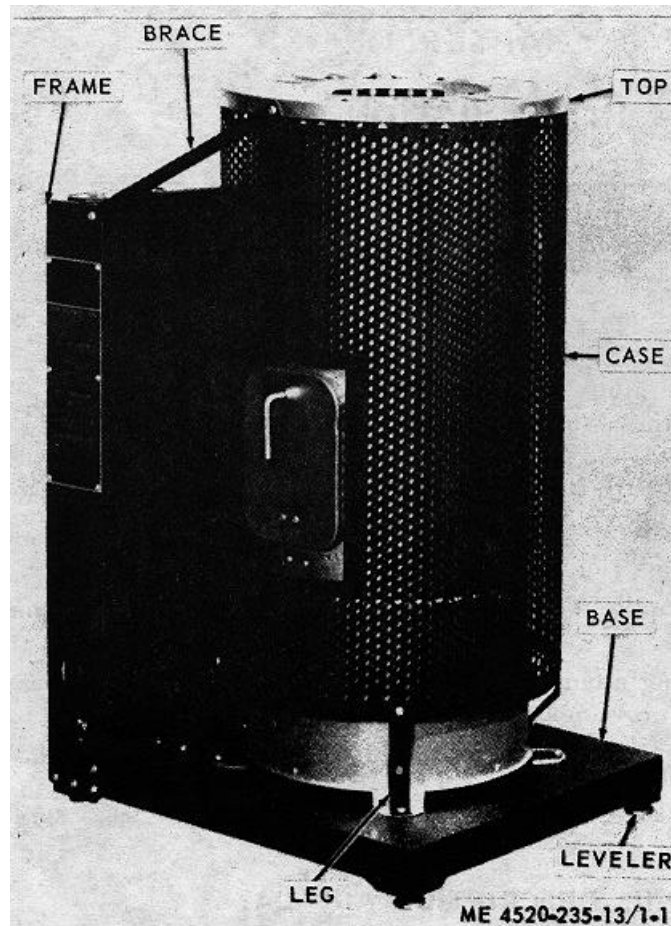

Figure 1-1. Space heater.
a. General. The Preway Models 444-3-ABJ, 444-2-ABEX, 444-4A, 444-4ABJ and Montag Model SH-70B Space Heaters (fig. 1-1 and 1-2) are fuel oil burning, non-electric, high radiant type heaters having an output capacity of 70,000 British Thermal Units (BTU) per hour. Preway Model 441-4ABJ has an output capacity of 50,000 BTU per hour. These space heater models are supplied complete with stove pipe, T-joint, draft regulator, adjustable pitch roof jack assembly, circulating fan, and are designed for floor installation. Preway basic unit) Models 444-3A and 444-4A space heaters come equipped without air circulating fan and adjustable pitch roof jack. This basic stove unit is interchangeable with the above mentioned models.